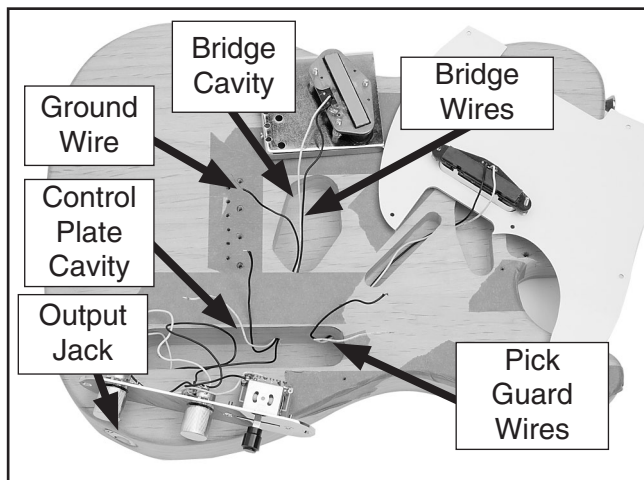

Figure 21. Wires threaded through body.
2. Thread the pick guard pickup and bridge pickup wires through the channels and holes into the control plate cavity as shown in **Figure 21**.
3. Thread the ground wire through the hole in the control plate cavity into the bridge cavity (**Figure 21**).